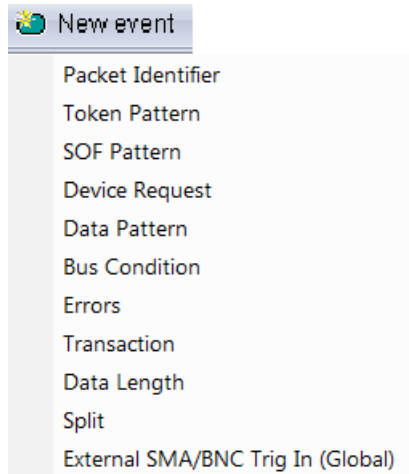

Figure 5.34: New Event Pop-up Menu.
1. Click the **New Event** button at the left side of the toolbar to display the New Event pop-up menu (see Figure 5.34 on page 247).